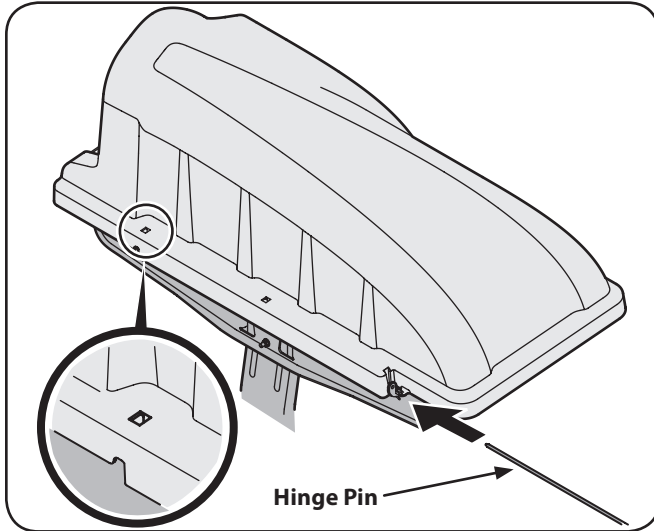
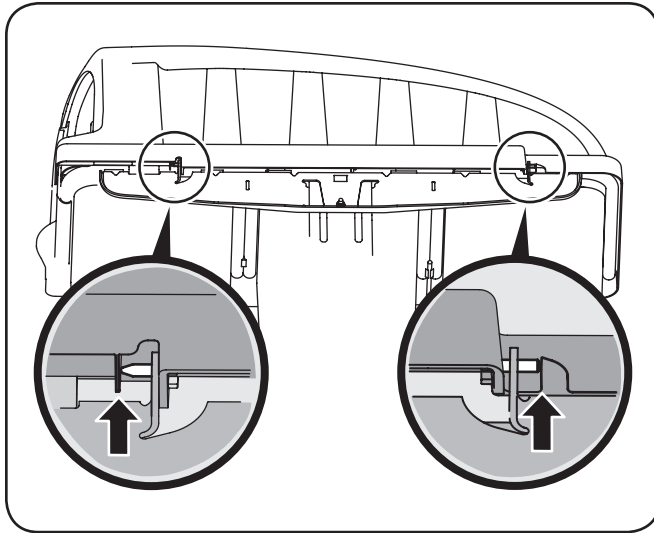

Figure 4-12
Figure 4-13
- Slide the hinge pin into the hole located on the mounting tab, as in Fig. 4-12. Use the cut-out window (See inset in Fig. 4-12) to line up the hinge pin on the other side and push pin all the way in until it reaches the end-stop. At this point the pin clips into place and is secured by a tab in the bagger cover. See Fig. 4-13.